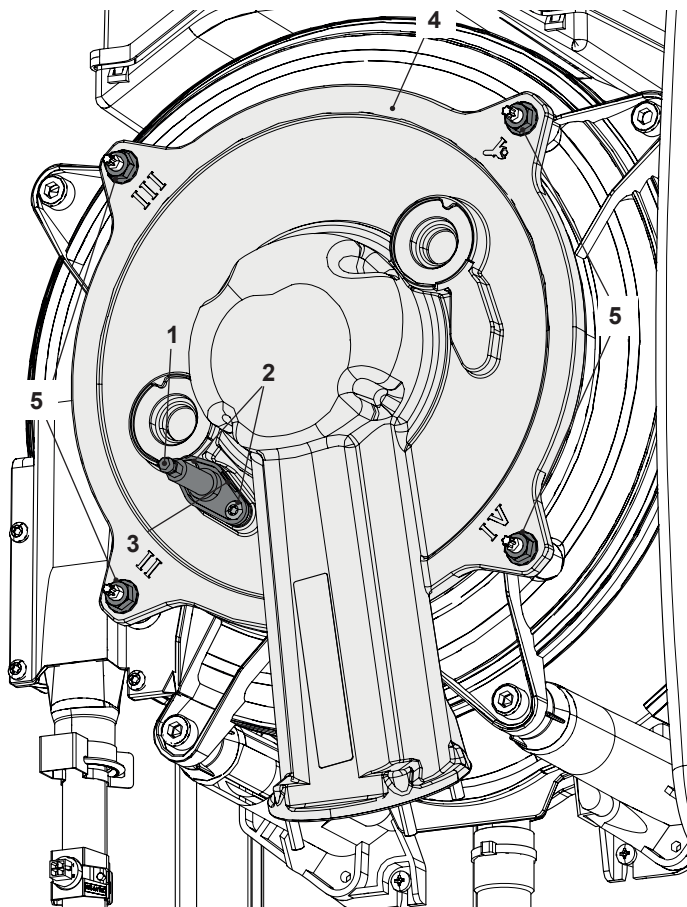

Figure 15.1
- 2 Disconnect the electrode connector "1" and the earth wire "3" (Figure 15.1).
- 3 Unscrew the nuts "5" (Figure 15.1) and remove the cover of the combustion chamber.